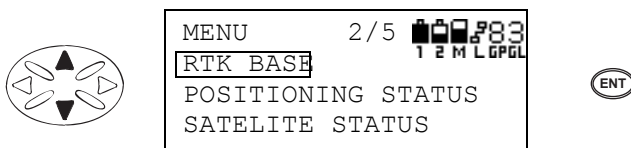

Figure 3-57. Select RTK Base
1. In the menu mode, press the **cursor key** to navigate to RTK BASE and press **ENT** (Figure 3-57).